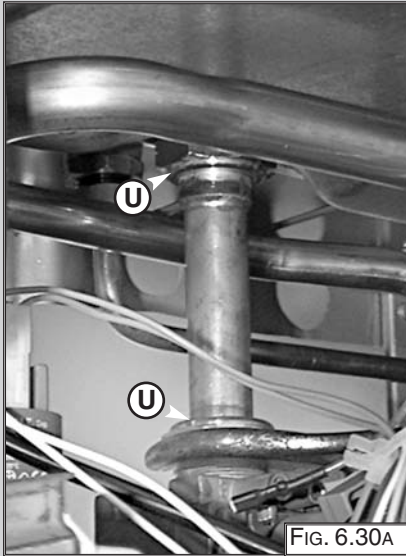

FIG. 6.30A
3. Release the nuts "U" (FIG. 6.30A);